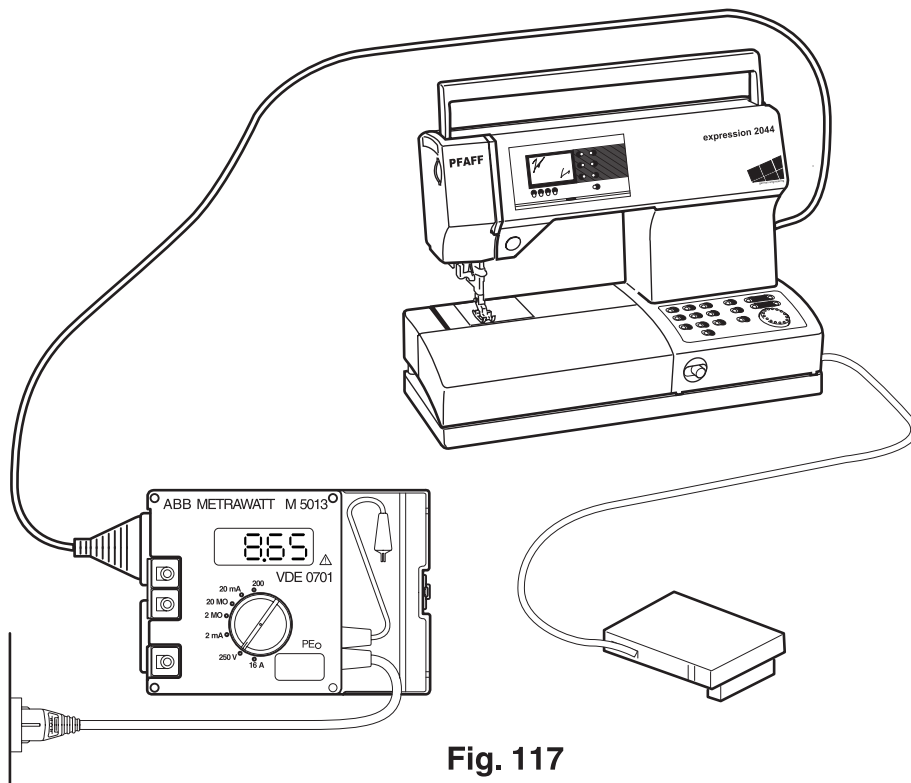

Fig. 117
- Set knob for measuring range at "20 M Ohm" (fig. 117).